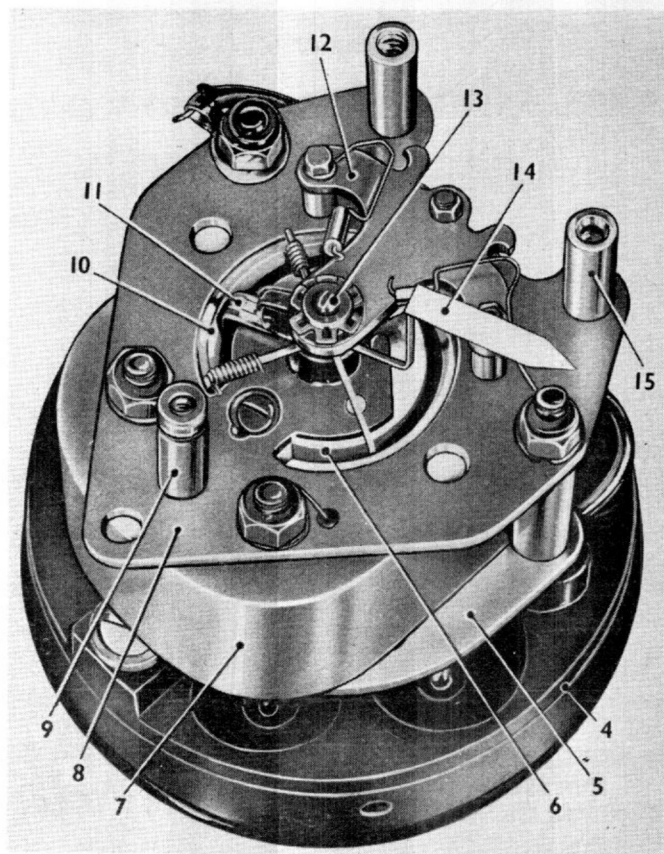

Fig. 2. Magnet and movement assembly
Key to fig. 2 and 3
8. The magnet and movement assembly (*fig. 2*) comprises a magnet, a soft-iron pole-piece, a core, a coil winding mounted upon a former, a rear bearing bridge and a front bearing bridge. Each bridge is supported by three pillars secured to the soft-iron pole-piece. Pivots attached to the coil former are mounted between spring-loaded jewel screws which are located in the front and rear bridges. The pointer, which is attached to the coil former, is controlled by the inter-action of the magnetic flux of the permanent magnet and the field surrounding the coil winding; it is set off-scale when no current flows. Pointer balance is maintained by two weights (*fig. 2*) and pointer travel is limited in both directions by spring stops.